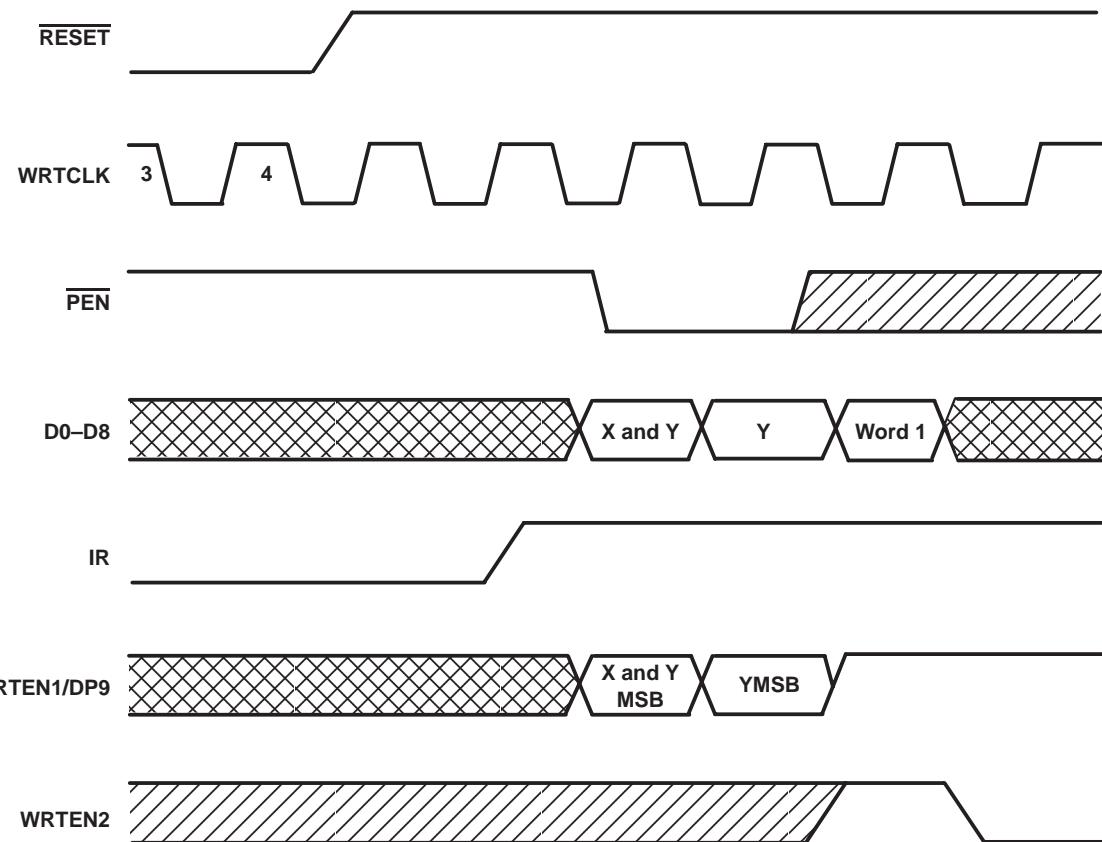

Figure 1. Programming X and Y Separately
Program enable ( $\overline{PEN}$ ) should be held high throughout the reset cycle.  $\overline{PEN}$  can be brought low only when IR is high and WRTCLK is low. On the following low-to-high transition of WRTCLK, the binary value on D0–D8 and WRTEN1/DP9 is stored as the almost-empty offset value (X) and the almost-full offset value (Y). Holding  $\overline{PEN}$  low for another low-to-high transition of WRTCLK reprograms Y to the binary value on D0–D8 and WRTEN1/DP9 at the time of the second WRTCLK low-to-high transition. While the offsets are programmed, data is not written to the FIFO memory, regardless of the state of the write enables (WRTEN1/DP9, WRTEN2). A maximum value of 1023 can be programmed for either X or Y (see Figure 1). To use the default values of  $X = Y = 256$ ,  $\overline{PEN}$  must be held high.
timing requirements over recommended operating free-air temperature range (unless otherwise noted) (see Figures 1 through 5)